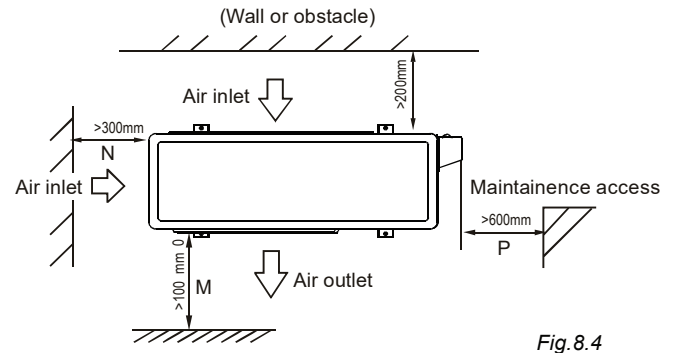

Fig. 8.4
- The minimum distance between the outdoor unit and walls/obstacles described in the installation chart does not correlate directly to installations in enclosed spaces. In these cases at least two of the three sides should remain open (M, N, P). (Refer to Fig. 8-4)